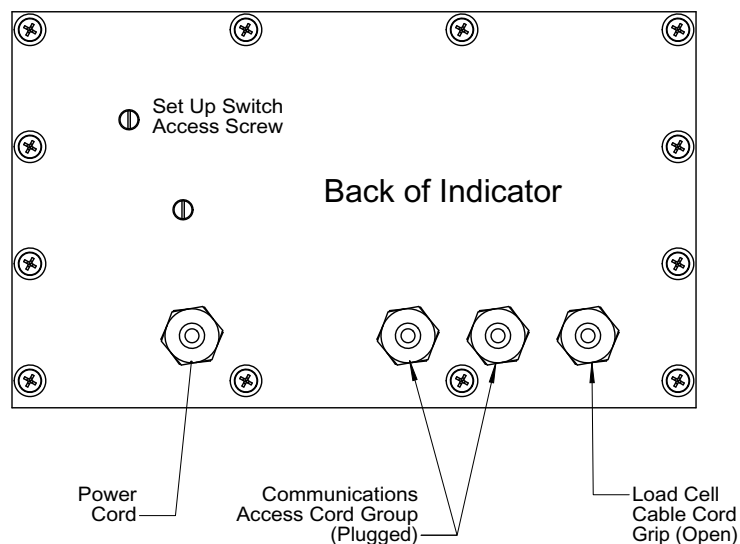

Figure 2-1. Recommended Cord Grip Assignments
1. Remove the setup switch access screw from the back of the enclosure, see Figure 2-1 on page 10.
The 480 provides four cord grips for cabling into the indicator: one for the power cord, three to accommodate load cell, communications, digital inputs and outputs, and analog output cables. Two of the three free cord grips come with a plug installed to prevent moisture from entering the enclosure. Depending on your application, remove the plug from any cord grip that will be used and install cables as required. Figure 2-1 shows the recommended assignments for the 480 cord grips.